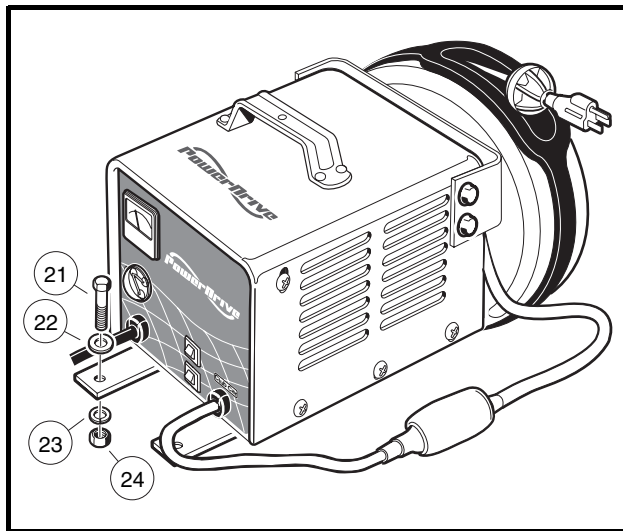

Figure 4-28 Onboard Charger Mounting – DS Villager
2. Remove four bolts (21), flat washers (22), lock washers (23) and nuts (24) from charger mounting brackets (Figure 4-28, Page 4-35).
3. Install four bolts (21), flat washers (22), lock washers (23) and nuts (24) securing charger to chassis and tighten to 108 in-lb (12 N·m) (**Figure 4-28, Page 4-35**).